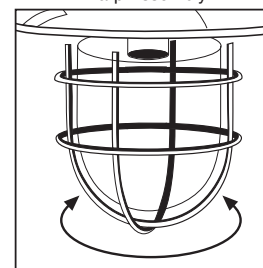

Figure 6
- For screw on glass fixtures, unscrew glass counter-clock wise, insert bulb(s) and screw glass back on (see figure 6).